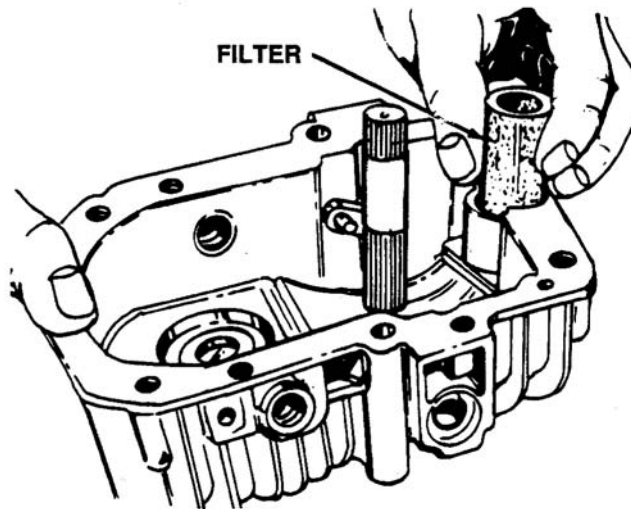

Figure 6-23. Removal of Filter
- e. Remove the filter, washer and spring. See Figure 6-23.